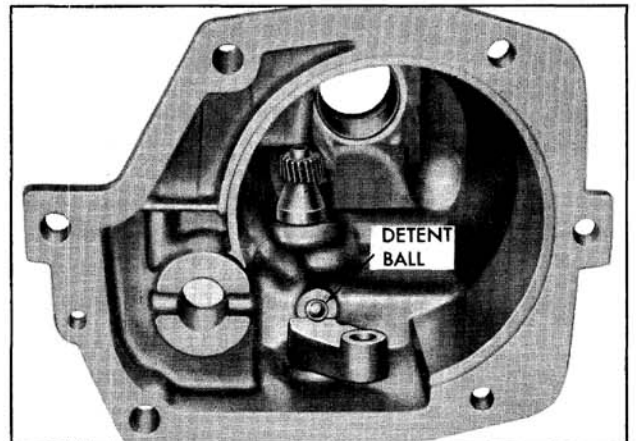

Fig. 7-67 Installing Reverse Shifter Shaft and Detent Ball
5. Place detent ball on spring (Fig. 7-67) and, holding ball down with your thumb or a suitable tool, push the shifter shaft back in away from case until it is directly over the ball and turn until the ball drops into detent on the shaft detent plate.